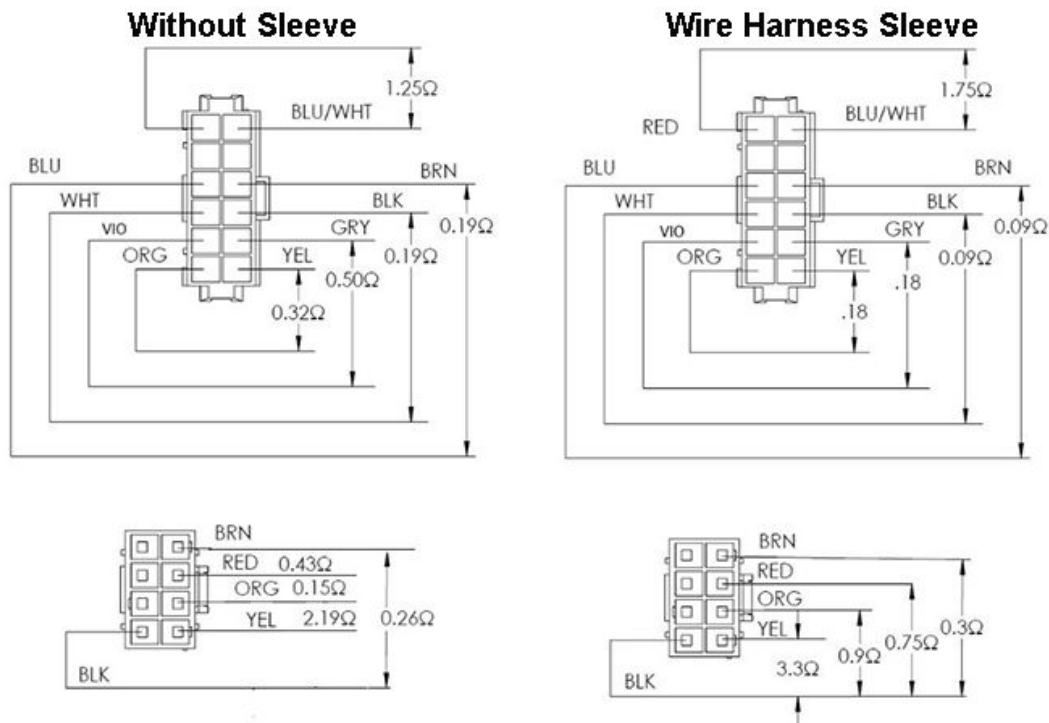

Fig. 134
3. Verify resistance is $\pm 10\%$ for each reading. Refer to Fig. 134.
There are two types of transformers, one with a wire harness sleeve and one without. Use the proper diagram for the transformer you are servicing in Fig. 134.